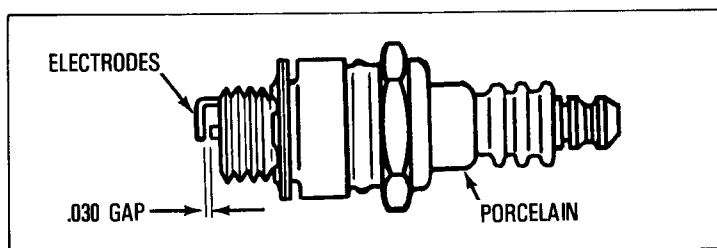

Figure 4
7. Install cover by hooking two (2) slots in cover over two (2) lugs on body. Push downward on tab end of cover and snap cover into place over lug on body. Make sure lugs on body are locked securely into slots in cover at both ends.
④ SPARK PLUG (see Figure 4):